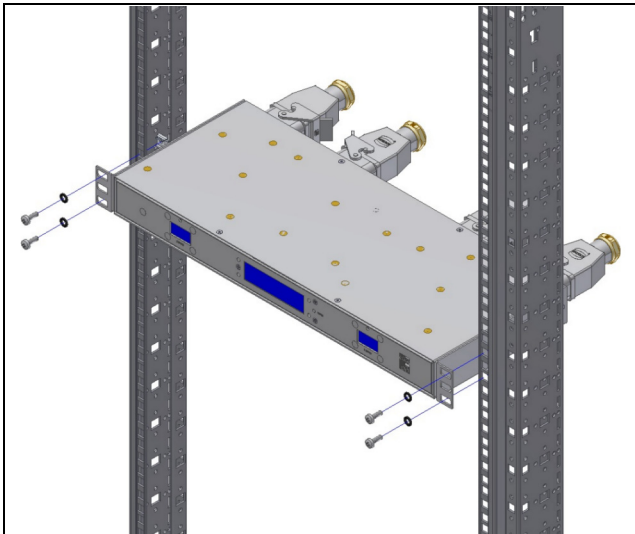

Fig. 2: Mounting on the enclosure frame
- Fasten the PSM MID measuring module as shown in fig. 2 with the screws provided in a free slot (1 U) of the server enclosure.